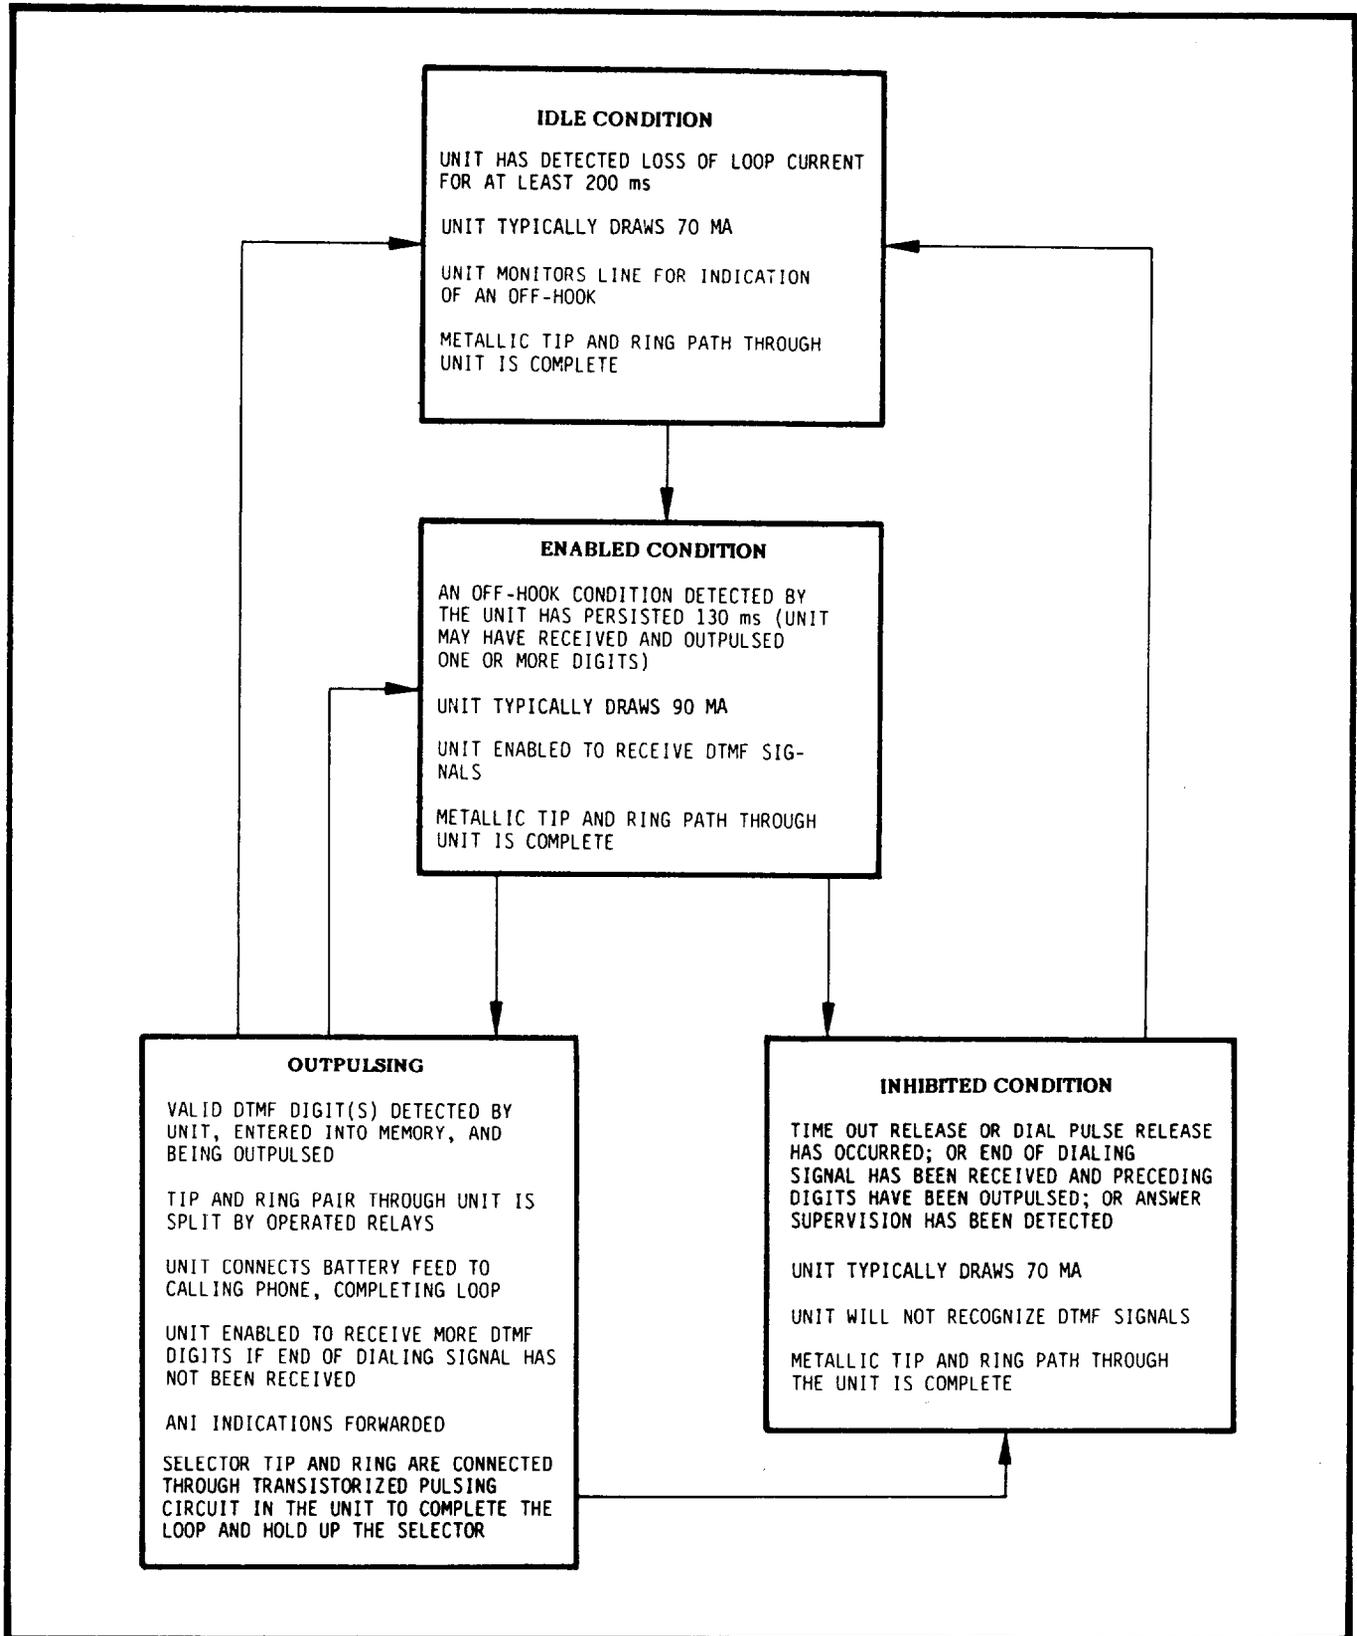

Figure 5 State Diagram
5.04 (See Figure 5.) Once enabled the M-164-71 remains enabled until on-hook unless it is inhibited by the End of Dialing Release, the Time-Out Release, the Dial Pulse Release or the Answer Supervision Release. Once inhibited, the unit can be enabled again only after recognizing an on-hook condition.